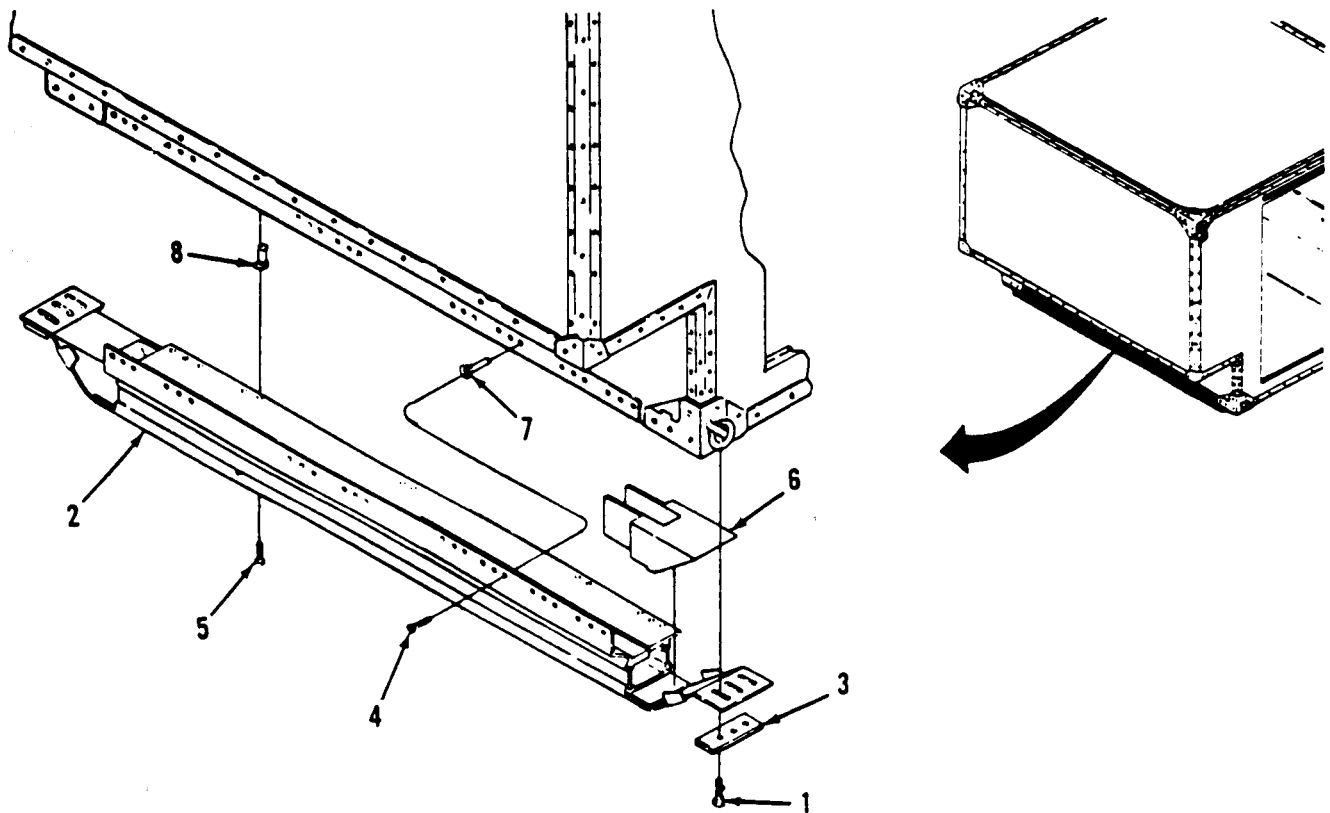

Figure 3-35. Skid Assembly Replacement.
b. Remove. (Figure 3-35)
- (1) Remove and retain three hex-head bolts (1) attaching each end of skid assembly (2) to underside of towing brackets, and remove plates (3).
- (2) Remove and retain 24 phillips head screws (4) attaching skid (2) to side panel of shelter.
- (3) Remove and retain 1x2 phillips head screws (5) attaching skid to underside of shelter floor panel, and remove skid (2) and two rubber blocks (6).
- (4) Inspect condition of rivnuts (7 and 8) and replace if necessary (paragraph 3-9.b).
- (2) Position each noseplate (10 and 11) in place over each plate (12) and secure to plate (12) and shoe (13) with 16 rivets (9).
- (3) Place spring (6) under skid plate (7) and secure with four rivets (4) and two rivets (5).
- (4) Push each skirt (1) in mounting grooves noseplate assembly (3). Align grooves of upper plate assembly (2) with top flange of skirts (1) and push in place.
d. Install. (Figure 3-35)